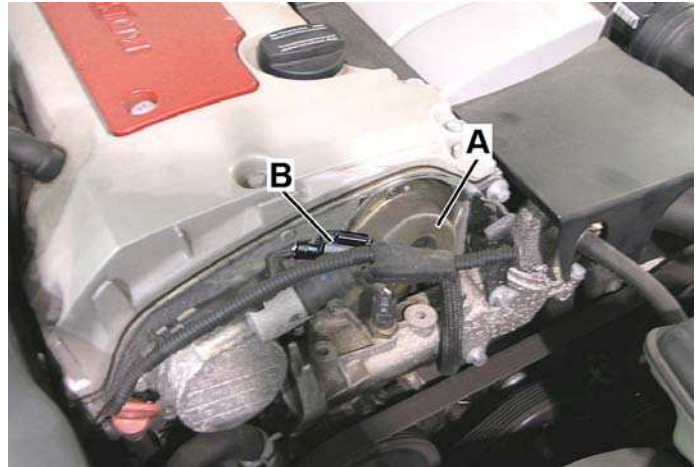

Figure 3
- Remove cover over camshaft solenoid (A, Figure 3).
- Disconnect engine harness connector (B, Figure 3) from camshaft solenoid (A).